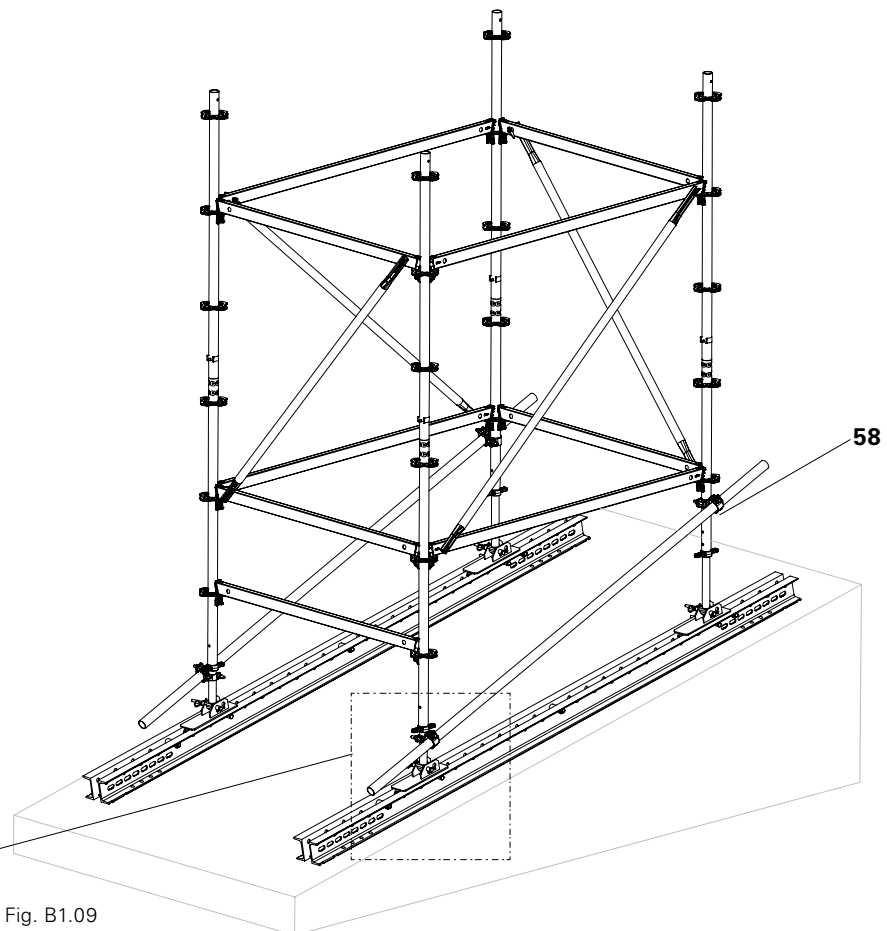

Fig. B1.09
2. Mount Connector MP/SRU (54) on the Steel Waler SRU using Fitting Pins (55). Secure Fitting Pins with Cotter Pins (56).
3. As Adjustable Base Plates, mount Spindle Head SRU (53) to the Connector MP/SRU using Fitting Pins (55) and Cotter Pins (56).
4. Insert Spindle Head SRU (53) in the Base Standard (2) and secure by means of the Spindle Locking UJS (6).
5. Set up Standards (4) which have been adapted to accommodate the inclination and brace with Ledgers (3) at the first level of rosettes.
7. Diagonally brace the longer Standards with scaffold tubes between the Spindle Head SRU and Standard UVR. For this, mount a Swivel Coupling DK 38/48 (57) on the Spindle Head, as close as possible to the Connector MP/SRU. Mount a Swivel Coupling DK 48/48 (58) on the Standard directly above the first rosette.
8. Erection of the shoring tower continues in accordance with Section A1. (Fig. B1.09 – B1.09a)